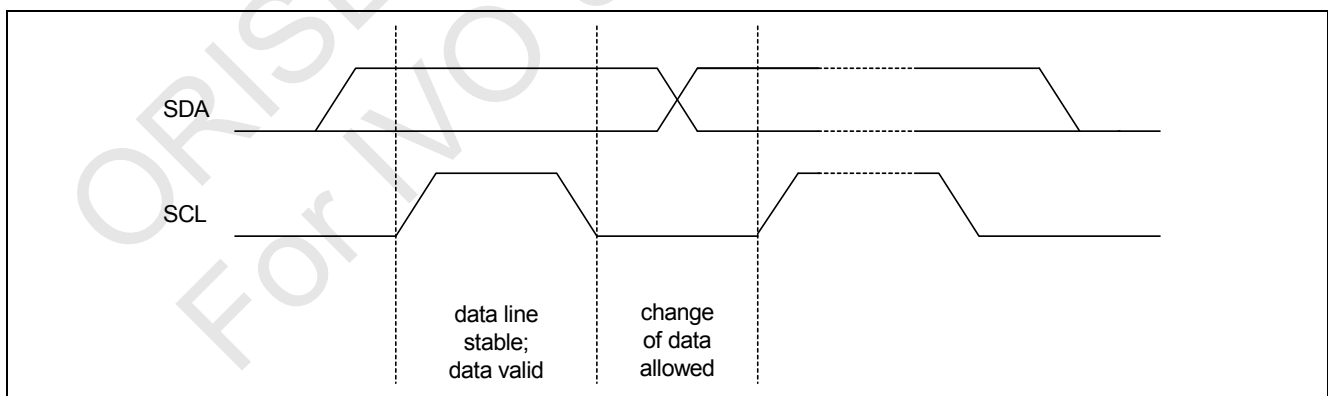

Figure 6.6.1.2 Bit transfer.
6.6.1.3. START and STOP conditions (See Figure 6.6.1.3)